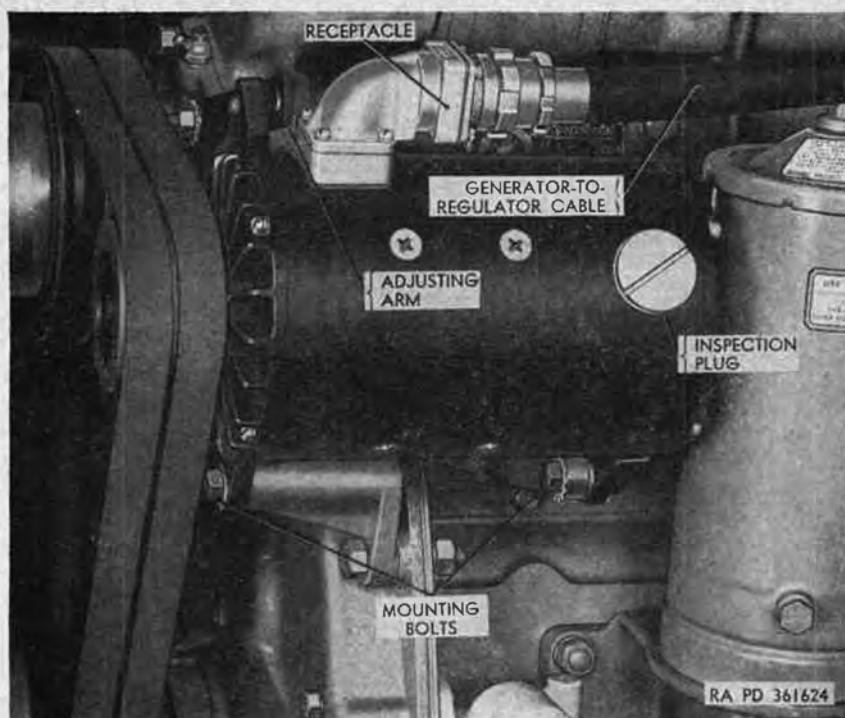

Figure 136.—View of generator installed on front left side of engine.
- (3) *Disconnect generator-to-regulator cable* (fig. 136). Unscrew generator-to-regulator cable connector at receptacle on top of generator and disconnect cable.